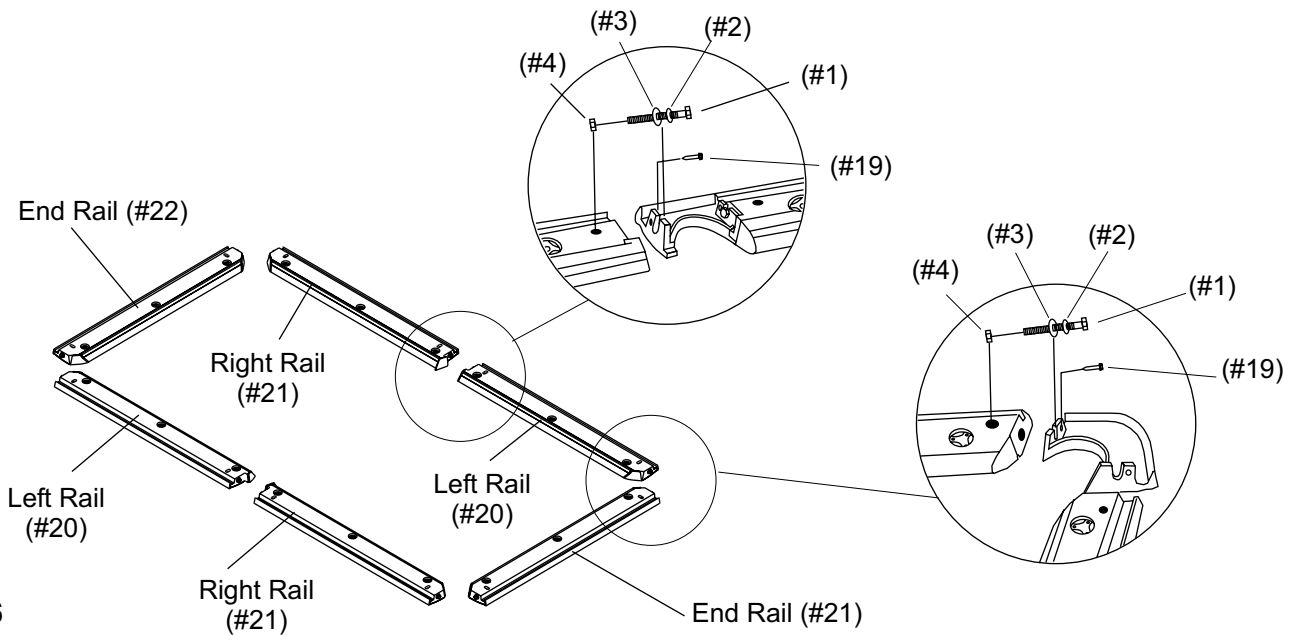

Fig.6
- 8. Complete rail assembly, mount two center castings and four corner castings using twelve Hex bolts (#1), twelve split lock washers (#2), twelve std. (#3) washers and twelve square nuts (#4) and using twelve screws (#19) for additional support. **See Fig.6 For details.**